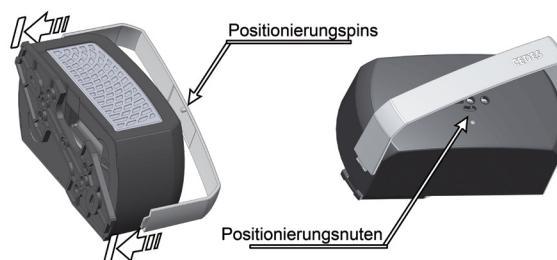

Figure 14: Correctly placing the mounting bracket
6. Snap mounting bracket onto TOF/PSD → Figure 14.